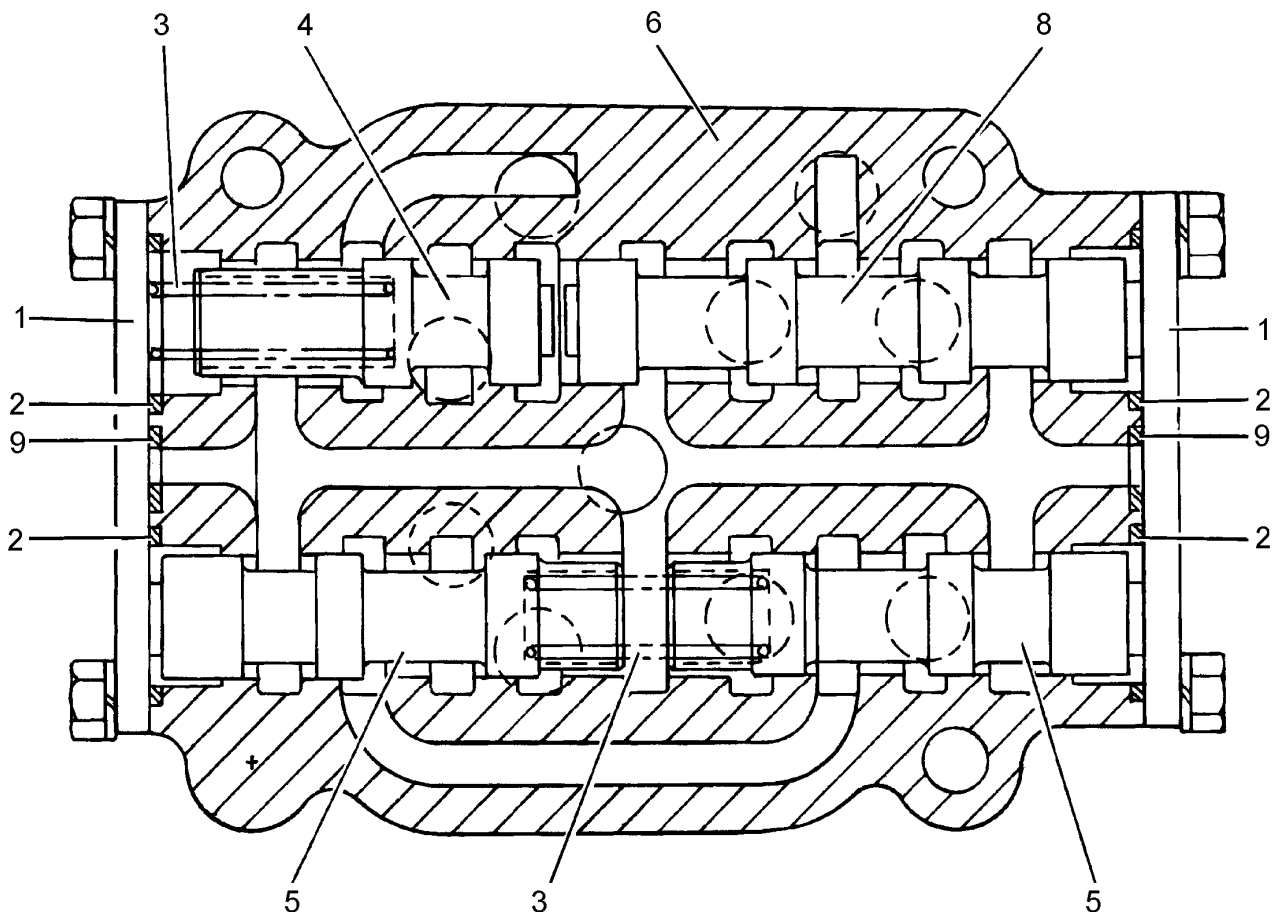

Fig. 7C.12. Cross Section of Range Selector Valve
12. REMOVAL AND DISASSEMBLY (Refer to Fig. 7C.12 and 7C.13)